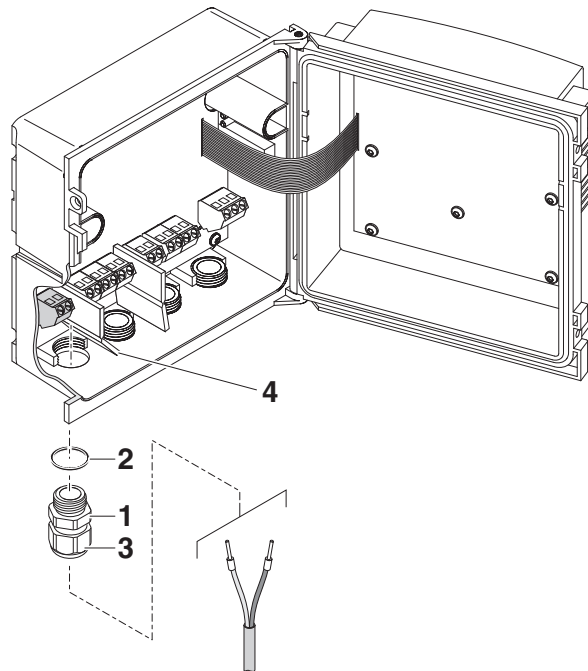

Fig. 3-15 Inserting the 24V AC/DC line
| 5 | Screw a cable gland (pos. 1 in Fig. 3-15) with sealing ring (pos. 2) into the enclosure below the 24 V AC/DC connection. |
| 9 | Tighten the cap nut (pos. 3 in Fig. 3-15). |